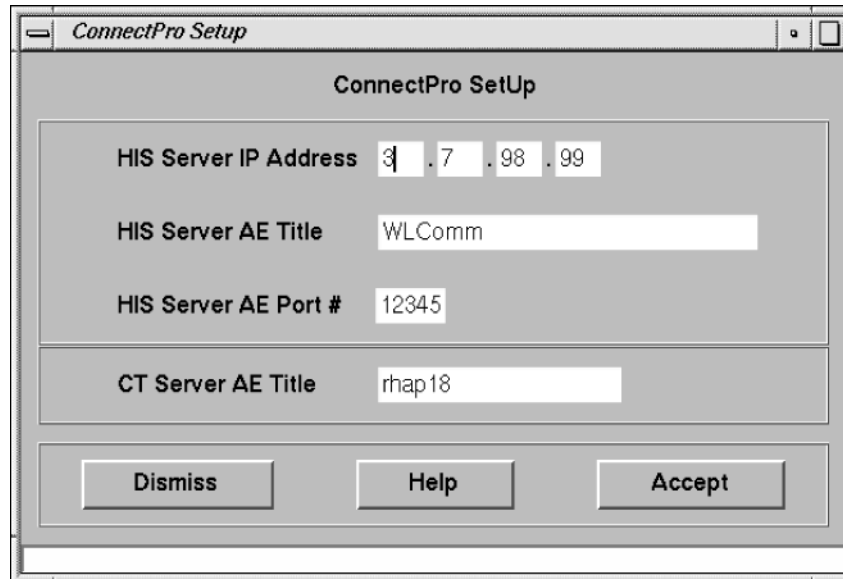

Figure 13-7 ConnectPro Setup Screen
- the console displays the ConnectPro Setup window as shown in Figure 13-7.